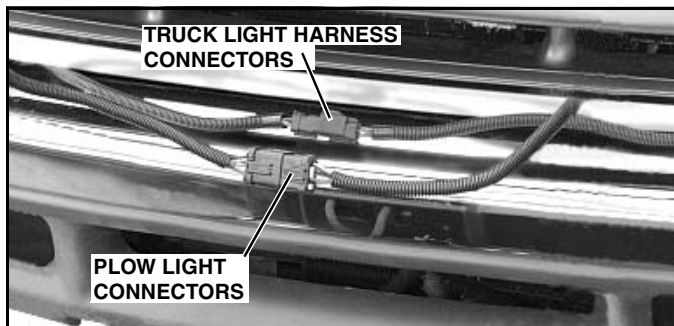

Figure 1-37
1. Unplug EIS[®] light harness connectors on truck, and disconnect plow light connectors, which had been plugged together for corrosion protection during storage. (See Figure 1-37).